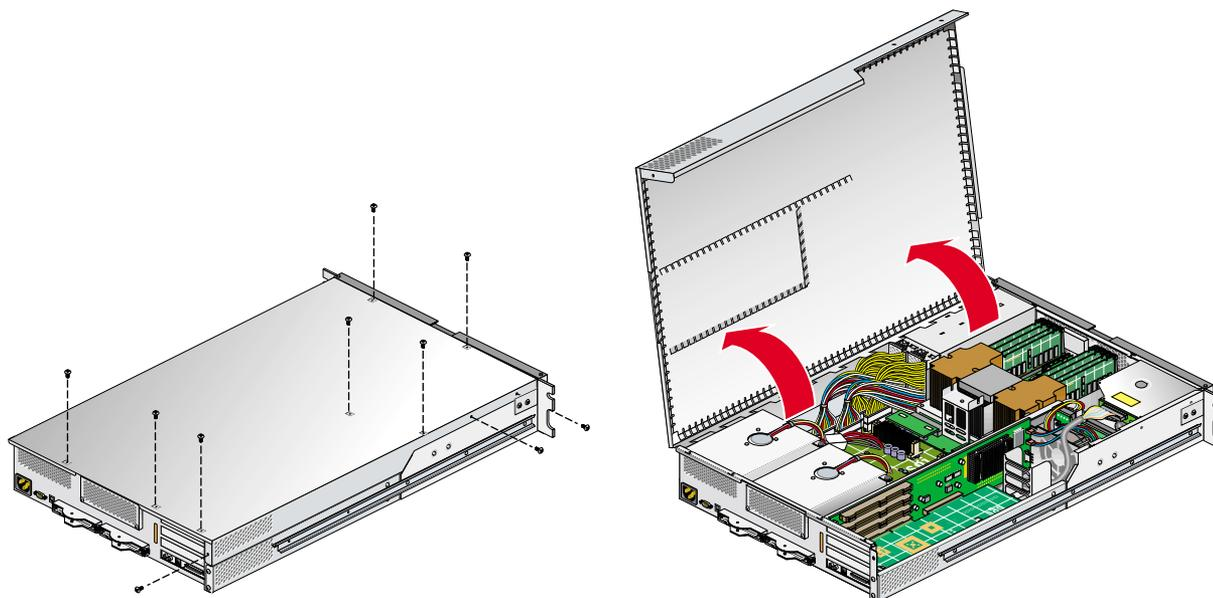

Figure 7-25 Opening Module Cover to Install DIMMs
5. To access the DIMMs, remove the ten Phillips screws shown in Figure 7-25 and lift and open the hinged cover.